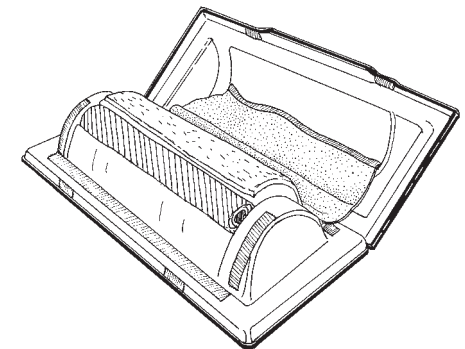

fig 6
4. Lift out the vein suspension tube. This is covered in yellow connective tissue **figs 6 & 7**.